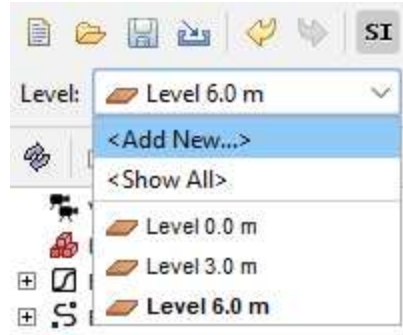

Figure 19. Adding a new level
1. Click on the level drop-down box above the Object Tree, and select **<Add New>** as shown in Figure 19. A dialog will open asking for the level location.
To change the active level, click the level drop-down box as shown in Figure 19, and select the desired level. This will make that level active and all other levels non-active.
To show all levels click the level drop-down box as shown in Figure 19, and click **<Show All>**.